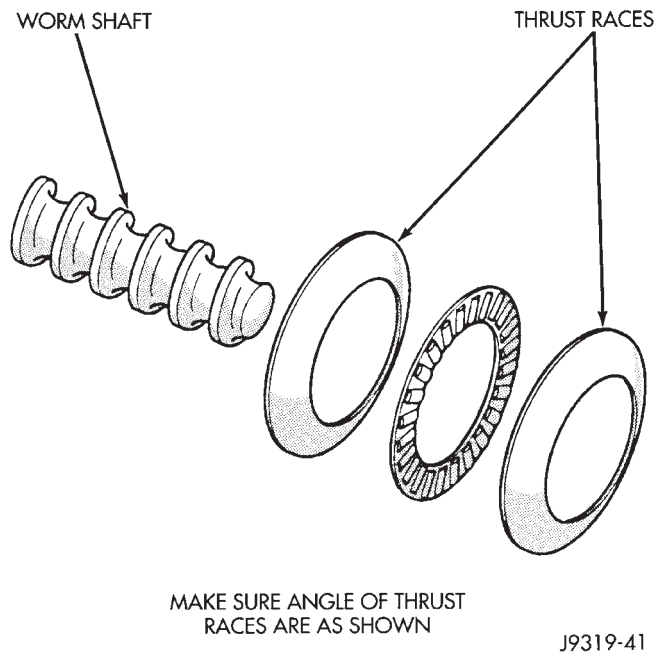

Fig. 35 Worm Shaft and Bearing
(7) Install the races and thrust bearing to worm shaft (Fig. 35).